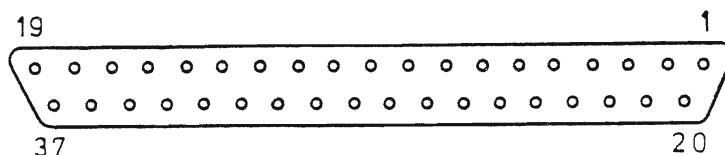

Fig. 5 Parallel control port connector (contact numbering as viewed from front of instrument)
13. The contact numbering of the 37-way control port connector is shown in Fig. 5 as viewed from the front of the instrument. The functions of the contacts are given in Table 2.